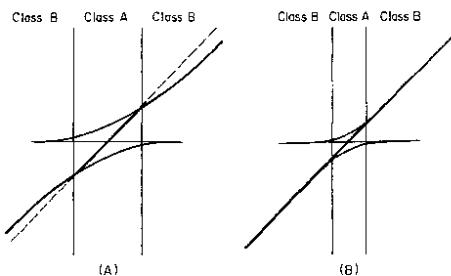

Fig. 2.5
For an ordinary class B amplifier, crossover distortion is reduced by increasing idling current thus overlapping the operating ranges of the positive and negative transistors. The overlap portion acts as a class A amplifier. Generally, the degree of amplification decreases where a change takes place from class A to B and no linear curve is obtained as shown in Fig. 2.5 (A). However, if the circuit shown in Fig. 2.3 is current-driven, a linear curve can be obtained at the point of change from class A to B as shown in Fig. 2.5 (B).